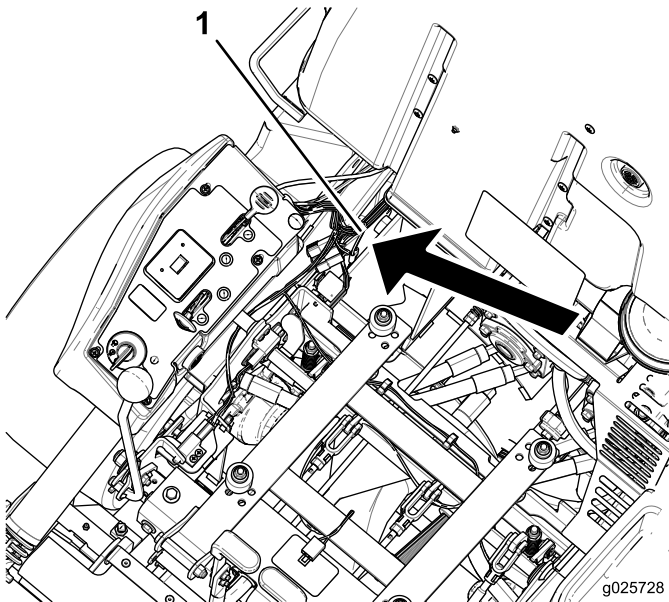
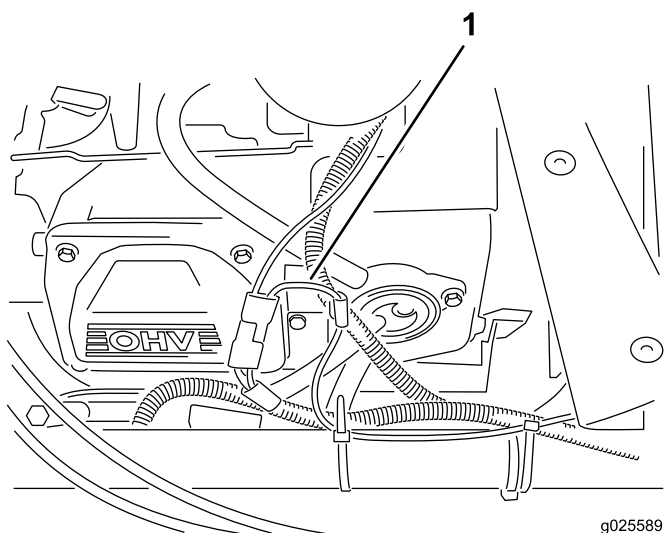

Figure 18
Figure 19
3. Connect the kit harness to machine harness with matching molded connector, located near the right rear of the seat or near the machine relays (Figure 18 or Figure 19).